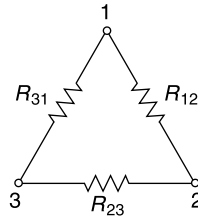

Fig. 4.55(b) A delta (or mesh) connection
Circuits shown in Fig. 4.55(a) and Fig. 4.55(b) are identical provided their respective resistances from terminals (12), (23) and (32) are equal.